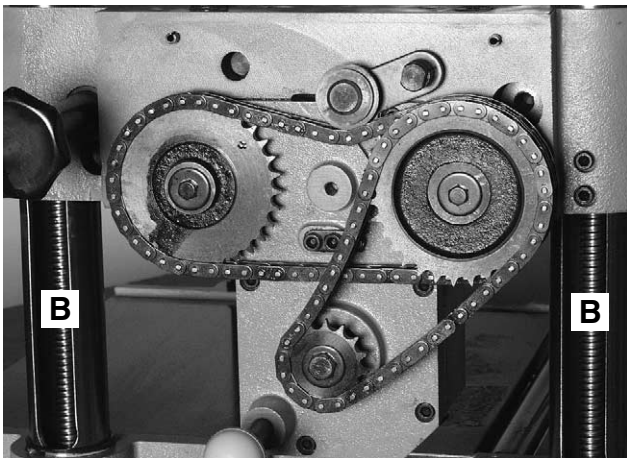

Fig. 21
Note four raising screws Fig. 21 (B) in the outside columns of the machine should be lubricated using a grease. Periodically remove screw and side cover, clean chains and sprockets lubricate using a light machine oil.